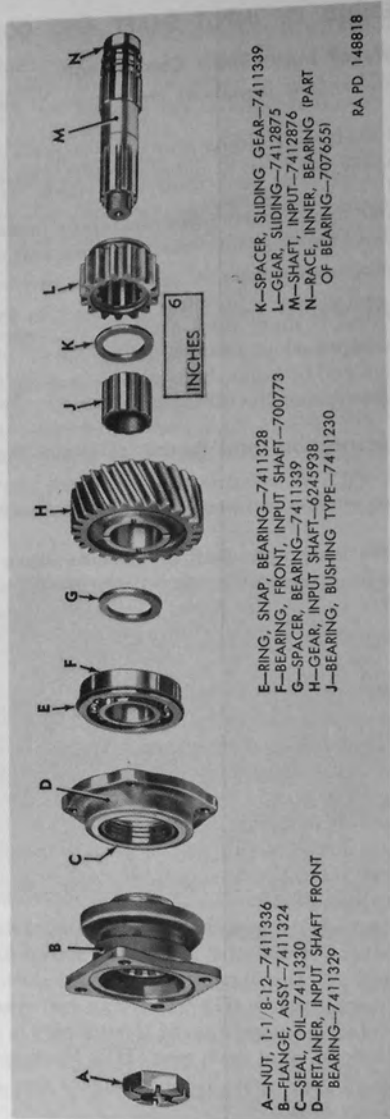

Figure 58. Transfer input shaft, sliding gear, and related components.
a. *Cleaning.*—Wash all input shaft components shown in figure 58 in dry-cleaning solvent or volatile mineral spirits and wipe or blow dry. Handle parts with care to prevent damage to ground surfaces and to prevent damage to splines.
Note. Key letters noted in parentheses are in figure 58.